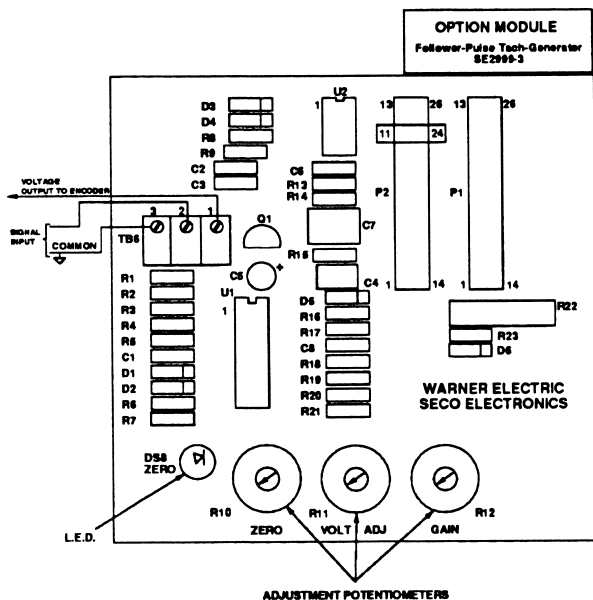

Figure. 6-2
6.8 FOLLOWER - PULSE TACH GENERATOR (-3/SE2999-3) See Figure 6-2